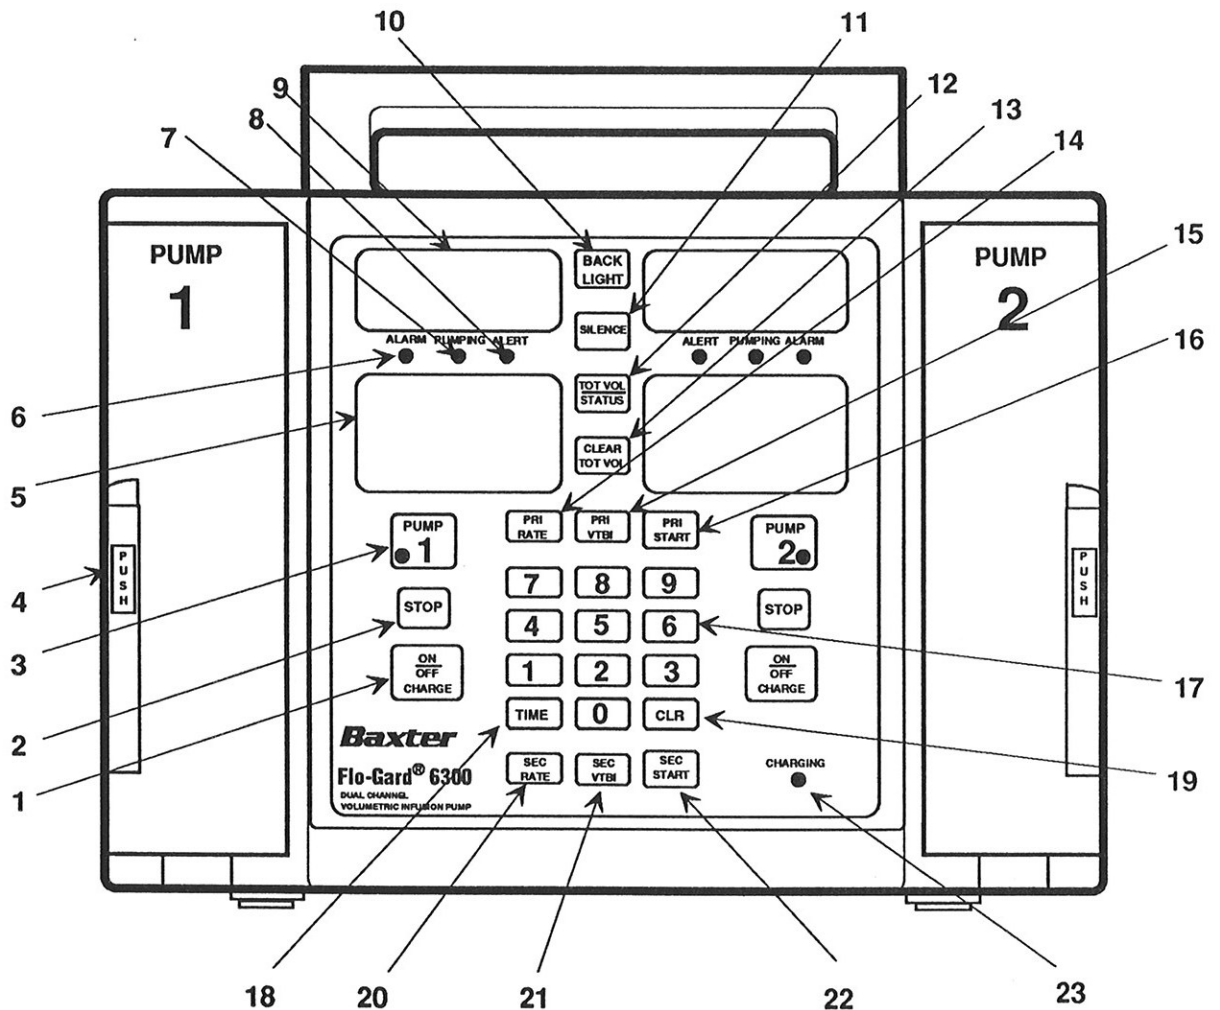

Figure 5. Front View
2. Set primary flow rate as follows (refer to Figure 5):
- a. Press PRI RATE key (#14, Fig. 5)
- b. Program desired flow rate (in mL/hr) on keyboard (#17, Fig. 5). Zero cannot be entered as the first digit. A selected flow rate higher than the allowable maximum results in the message "Hi" appearing in the PRI RATE display. To correct a mistake, press CLR (#19, Fig. 5) or PRI RATE again and re-enter correct rate. The selected flow rate is displayed in the main display of the selected pump.
- a. Press PRI VTBI (#15, Fig. 5).
4. To read total volume infused and/or review infusion settings, press TOT VOL/STATUS key (#12, Fig. 5). VOLUME INFUSED is displayed first, followed by RATE and VTBI.
5. If necessary, reset the volume previously infused on the selected pump to zero by pressing CLEAR TOT VOL (#13, Fig. 5).
6. Press PUMP 1 or PUMP 2 as appropriate. Then press PRI START (#16, Fig. 5). The green PUMPING LED lights and a moving bar appears next to the appropriate flow rate setting. Confirm flow by checking for drops in the administration set drip chamber. If Auto Restart is enabled and Flow Check is not enabled, AUTO RESTART is displayed in the Pump 1 message display.
- b. Press SEC RATE key (#20, Fig. 5). The right-hand side of the selected pump's main display now shows secondary infusion data.
- a. Press SEC VTBI key (#21, Fig. 5).
7. Press SEC START (#22, Fig. 5) to begin infusion. Verify that drops begin falling in the secondary set drip chamber only. When the VTBI of the secondary program reaches zero, the pump will revert to the primary program. When this happens, if the primary flow rate is set above 999 mL/hr, be sure to close the secondary set on/off clamp. If the AUDIBLE SWITCHOVER option is enabled, the alert message SEC COMPLETE will appear in the appropriate message display and an intermittent alert beep will sound. Pressing any key that is accepted for that pump, or unlocking the front panel, will clear the alert.
Note: The Volume-Time Programming procedures are identical for Pump 1 and Pump 2. Refer to Figure 5 for key locations.